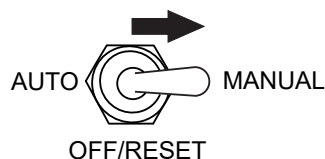

Figure 99. Auto Start/Stop Switch
2. While keeping the **Hour Check button** pressed, place the **Auto Start/Stop switch** (Figure 99) in the **MANUAL** position.